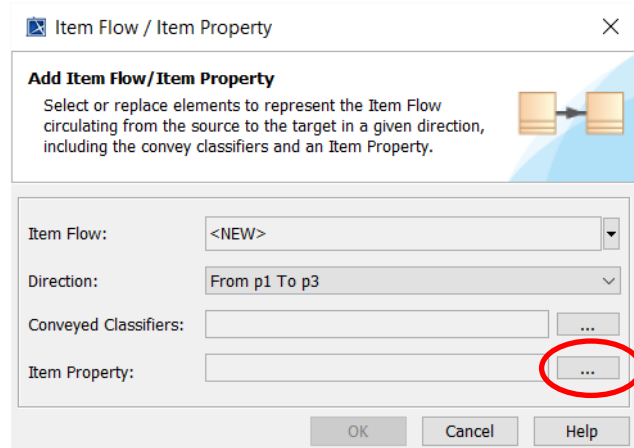

Figure 9 Setting Item Property
- In the next window (Figure 9), set the direction from **p1** to **p3** and click the browse button to the right of Item Property.